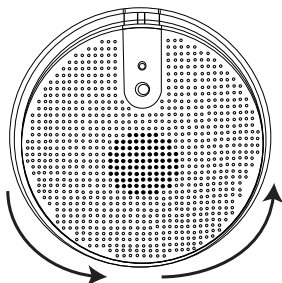

Figure 2: Remove Detector from Base
1. Grasp the detector and twist counterclockwise to remove the detector from the mounting base. See Figure 2.